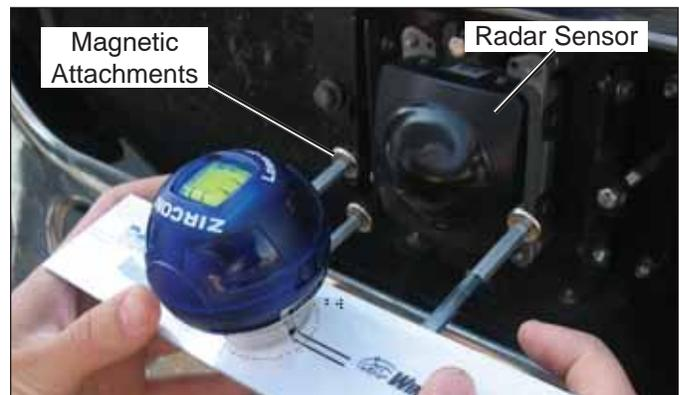

FIGURE 27 - ATTACHING THE ALIGNMENT TOOL (SHOWS TOOL K041451 OR K041227)
6.07.4. Position the alignment tool over the sensor so that it straddles the sensor. Attach the alignment tool to the bracket/sensor assembly using its magnet attachments. Use the Lateral Alignment level to make sure that the alignment tool is approximately horizontal width-wise. See Figures 27 and 28.